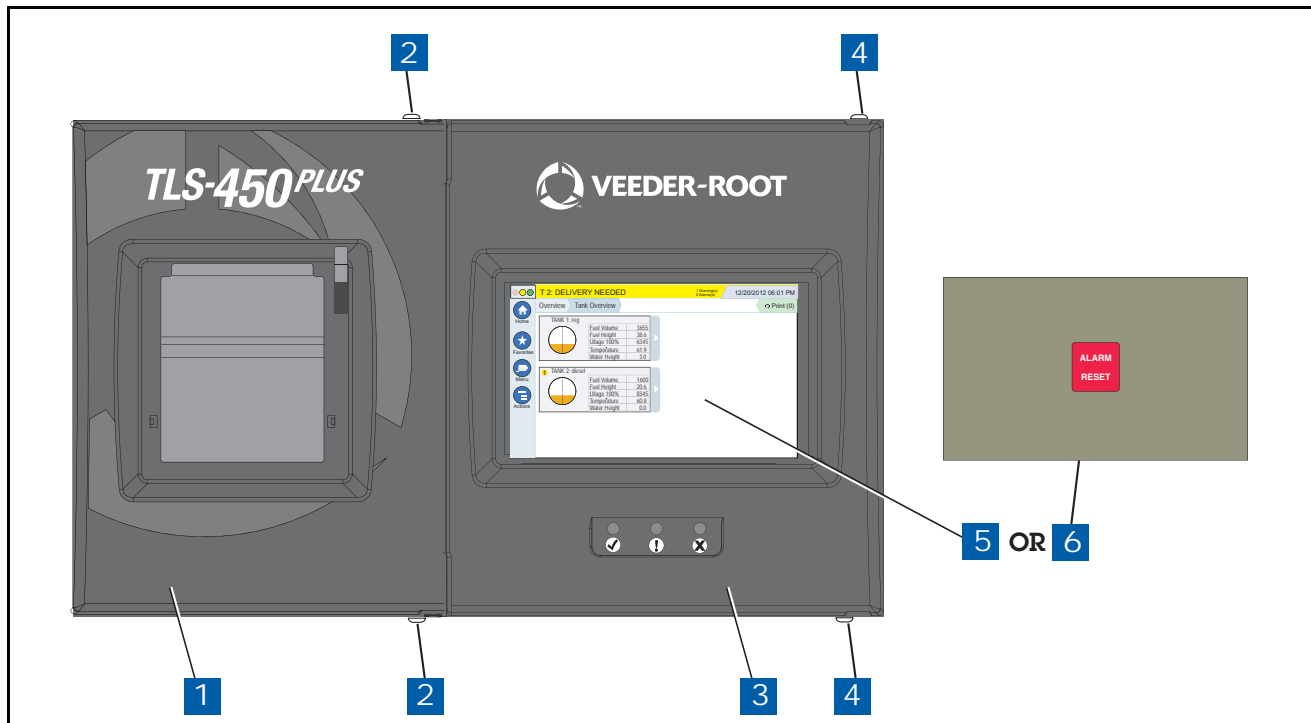

Figure 4. Opening The TLS-450PLUS Console Doors
- Remove the both left and right door screws (with a T-15 Torx driver) and swing open both doors to the left (see Figure 4).
LEGEND FOR NUMBERED BOXES IN Figure 4
1. Referencing Figure 4, open the left and right doors of the console.
2. Remove both the left and right door screws (with a T-15 Torx driver) and swing open both doors to the left (see Figure 4).